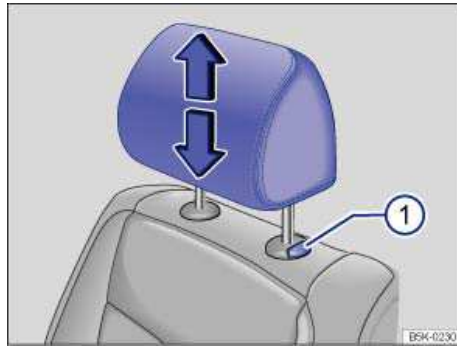

Fig. 37 Adjusting the head restraints.
- Pull the head restraint up in the direction of the arrow, or push it down while pressing the button ⇒ fig. 37 (1) ⇒ ⚠.